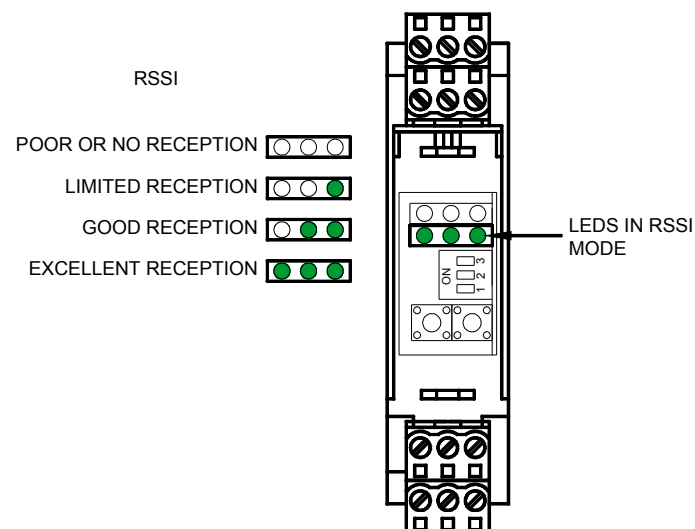

Figure 5 RSSI mode LED indication.
**Mode 4: RSSI mode (b100):** Set mode switches for mode 4, press and release the reset switch. In this mode the strength of the RF signal from the transmitter can be monitored, this is helpful for antenna alignment or trouble shooting. Three LEDs are used for signal strength indication: RF Link, A1 and A2. The signal strength is shown by the number of on LEDs as shown in figure 5.